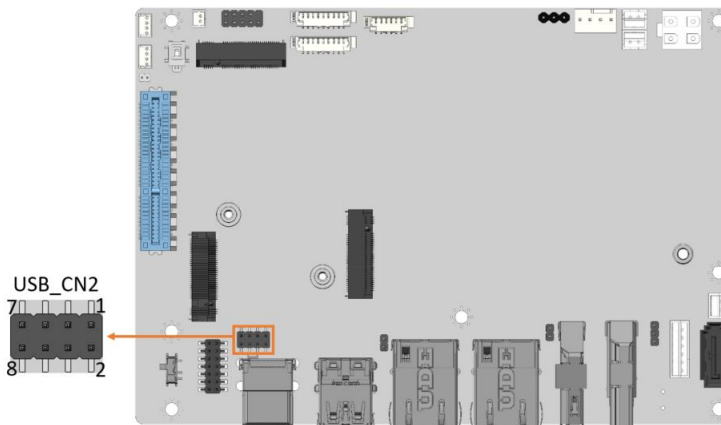

Figure 3-19: Internal USB 2.0 Connectors Locations
- CN Location:** See **Figure 3-19**